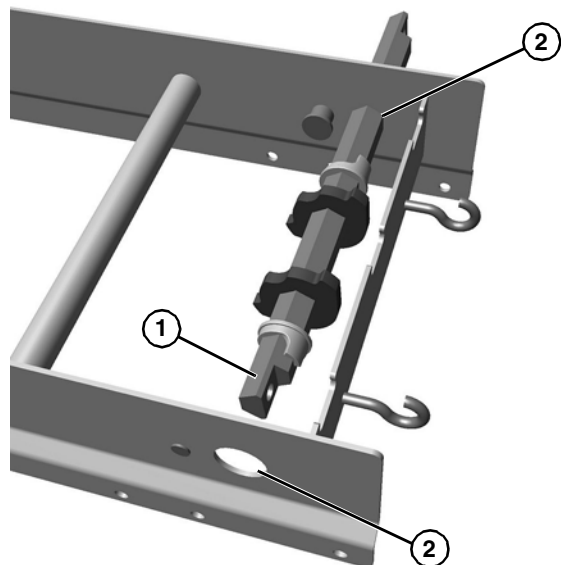

Figure 18
2. Place hex shaft assembly (**Figure 18, item 1**) through the conveyor frame tip up holes (**Figure 18, item 2**) and center with conveyor.